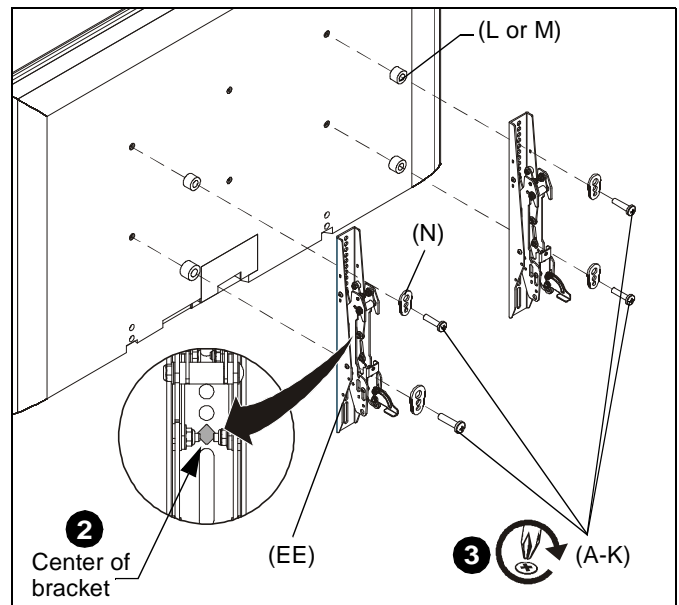

Figure 11
2. Align the center of the interface bracket (EE) with center of screen. (See Figure 11)
3. Select correct screws, spacers (if necessary) and universal washers from the hardware bag (A-N) and attach brackets (EE) to back of screen. (See Figure 11)